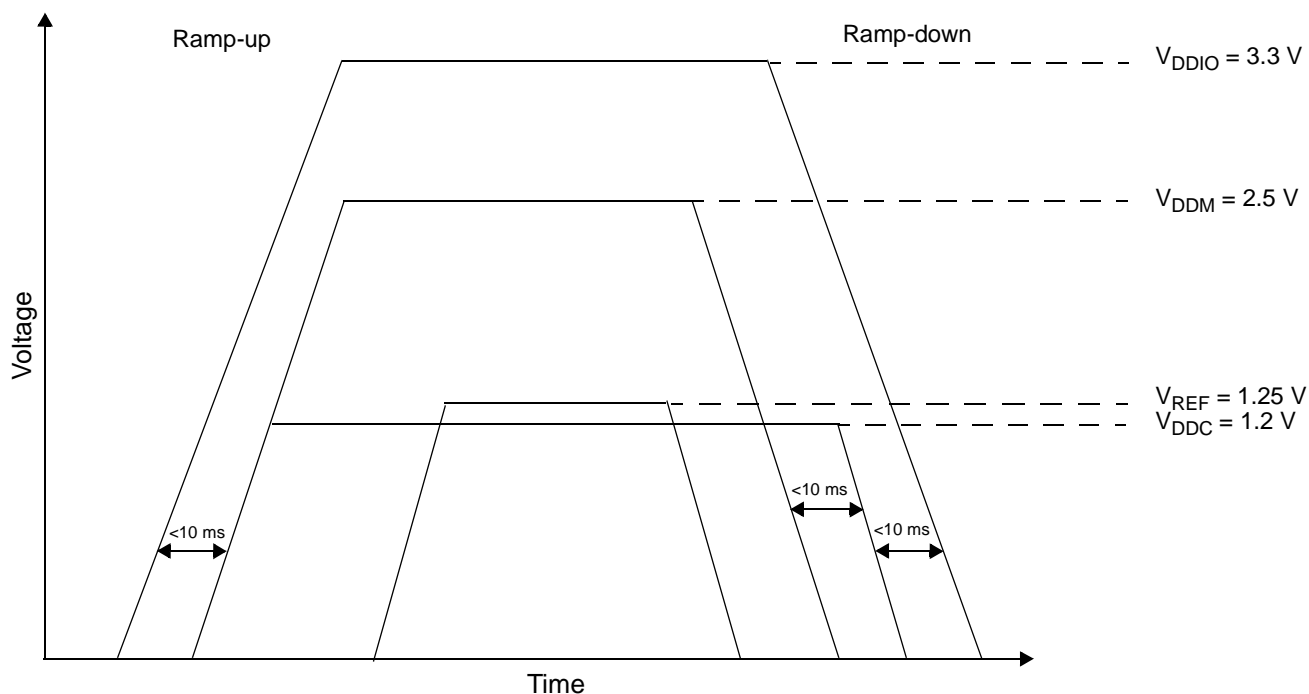

Figure 31. Voltage Sequencing Case 2
- Refer to **Figure 31** for relative timing for Case 2.